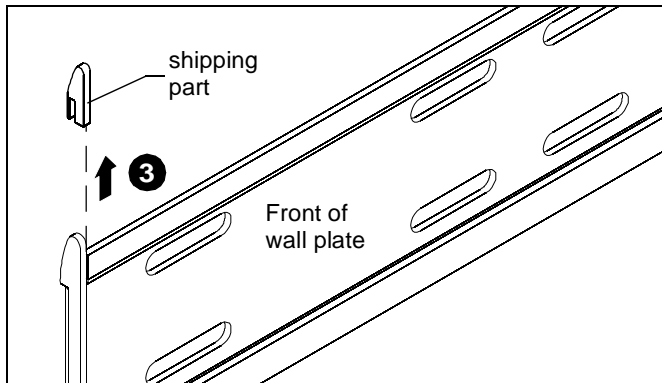

Figure 1
3. Remove and discard two plastic shipping parts from the wall plate (one from each end). (See Figure 1)